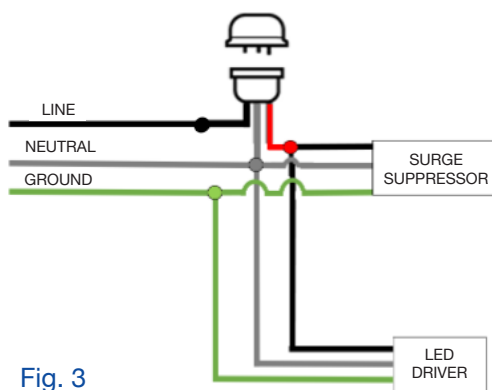

Fig. 3
6. Wire the photocell receptacle according to the wiring diagram below. (Fig. 3) For luminaires with 2 LED drivers, add the second driver into the same connections as the first.